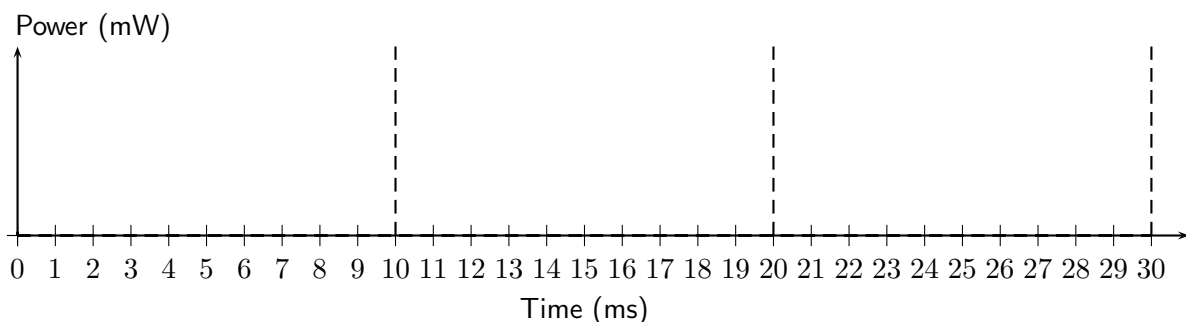

Abbildung 19: Diagram for Aufgabe 3.2 (a)
- (a) (3 Punkte) Plot the power consumption as a function of time when the above tasks are executed under a work-conserving schedule. Please use Figure 19. What is the value of E_{av} ?